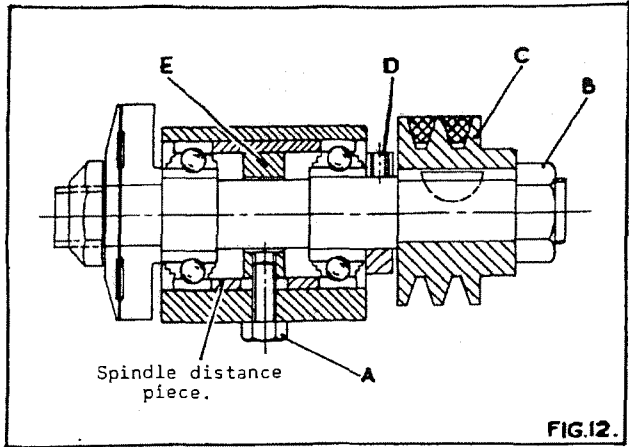

FIG. 12
1. Loosen the hexagon head adjuster bolt "A" in Fig. 12, and tap spindle where required, taking care not to damage the threads on the spindle end. Place a steel rule along both sides of riving knife to check whether the saw is central.
3. Now working from the pulley end of the spindle. Remove the 1" fine thread nut (right hand thread) "B" in Fig. 12, remove spindle pulley "C" which is keyed to the spindle.
The bearings should now be replaced as the arrangement in Fig. 12. Care should be taken not to pre-load the bearings, i.e. the spindle distance piece should be just free between the two bearings.